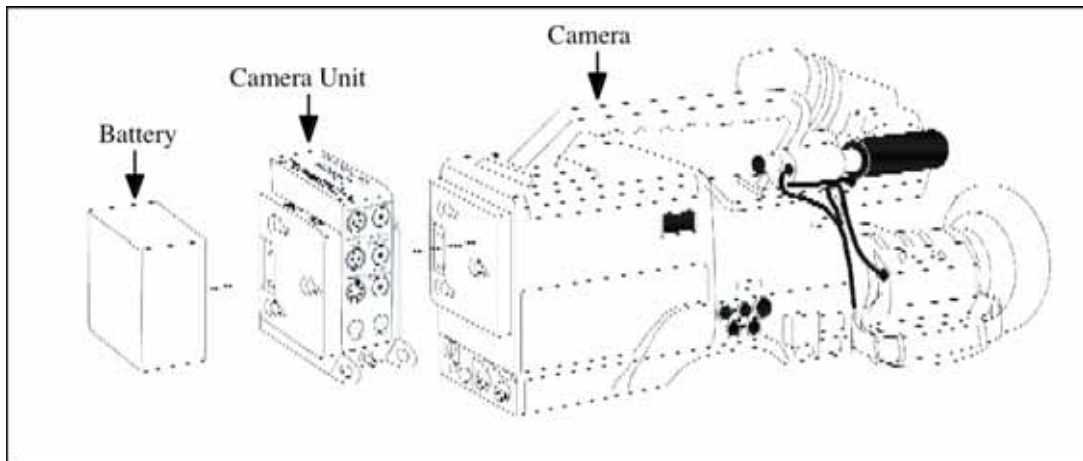

Figure 3: Attaching the CopperHead Between Camera and Battery
5. Mount the Camera Unit to the flange on the CopperHead as shown below in Figure 3.